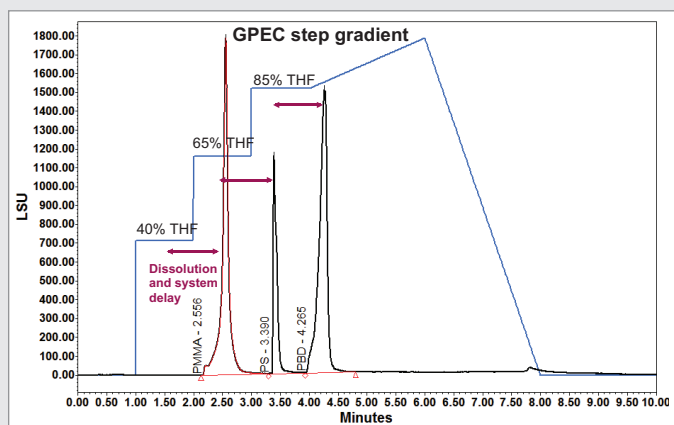

Figure 2. Empower overlay of the GPEC analysis of PMMA, PS, and PBD.
Therefore, a step gradient method is used to control the amount of time the polymers spend in the insoluble regions of the gradient. A steep curve is used for the insoluble regions (11) of the gradient profile, while the soluble region is a less steep curve (6) as seen in the gradient table and resulting chromatography (Figure 2).